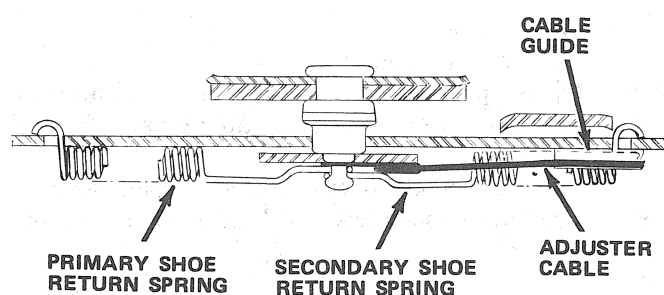

Fig. 2G-27 Return Spring Installation
- (1) Lubricate support plate ledges, anchor pin, self-adjuster cable guide, adjuster screw threads and pivot, and parking brake cable lever and pivot with molydisulphide grease or chassis lubricant.
- (2) Install parking brake lever on secondary brake-shoe and install washer and replacement lever retaining U-clip. Crimp ends of clip using pliers to retain it on pivot.
- (3) Position brakeshoes on brake support plate and install holddown springs (figs. 2G-25 and 2G-26).
- (4) Install parking brake cable in lever and install parking brake strut and positioning spring.
- (5) Place adjuster cable eyelet on anchor pin.
- (6) Install primary return spring (fig. 2G-27).
- (7) Install cable guide on secondary brakeshoe.
- (8) Install secondary return spring (fig. 2G-27).
- (9) Install adjusting screw and spring on brakeshoes. Insert small hooked end of spring in large hole in primary brakeshoe and large hooked end of spring in adjuster lever.
- (10) Position adjuster cable in cable guide groove insert hooked end of cable in adjuster lever.
- (11) Grip adjuster lever with pliers and hook lever tang in large hole at bottom of secondary brakeshoe.
(12) Perform initial brake adjustment using clearance gauge or manual adjustment procedure. Refer to Service Brake Adjustment.
(13) Install brakedrums.
(14) If any brake lines were disconnected, bleed brakes. Refer to Brake Bleeding.
(15) Install rear wheels and tires.
(16) Lower vehicle.
(17) Check brake operation before moving vehicle.
(18) Drive vehicle in reverse and make 10 to 15 firm brake applications to complete brake adjustment. Make one forward brake application after each reverse application to equalize adjustment.